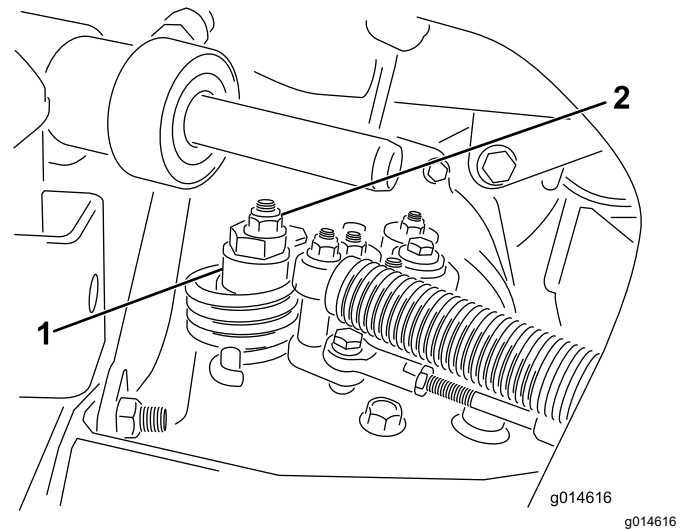

Figure 41
- A. Loosen the nut securing the eccentric to the top of the hydrostat (Figure 41).
- C. Rotate the eccentric until creep does not occur in either direction. When the wheel stops rotating, tighten the nut locking the eccentric and the adjustment (Figure 41). Verify the adjustment with the throttle in the SLOW and FAST position.